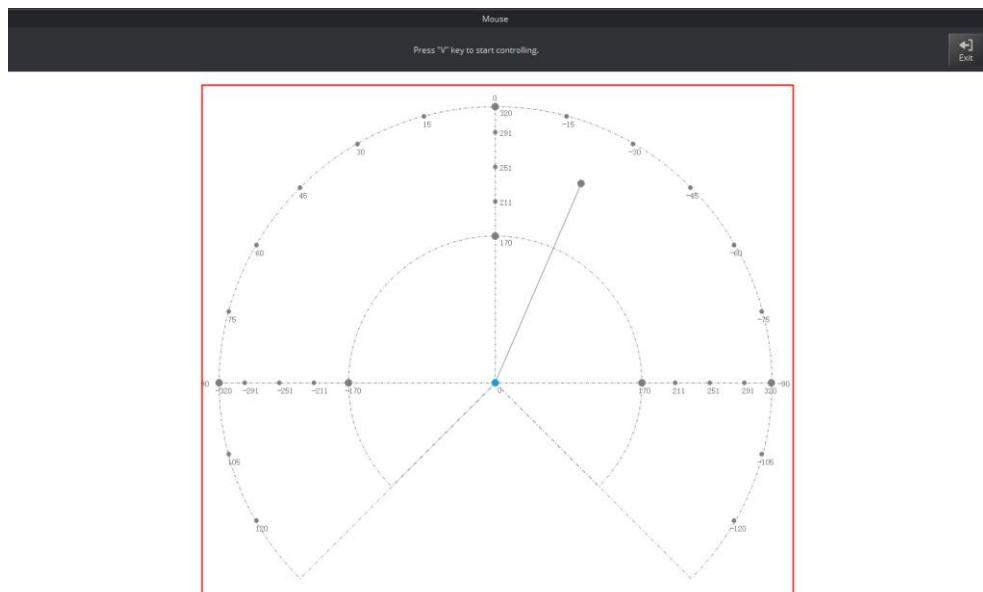

Figure 5.102 Move the robotic arm in the red annular area
**Step 2** Press V to enable the mouse control of the Dobot Magician. Press and hold the left mouse button to drag the mouse within the annular area to move the robotic arm, as shown in Figure 5.102.